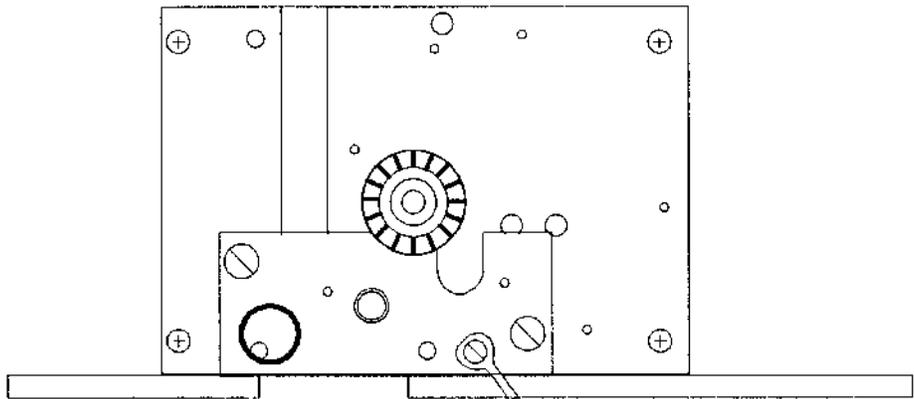

Figure 156 Chuck Holder Plate mounted in ROTARY position
8. Remove the chuck holder plate from the rotary shaft and use the two captive screws to secure it in the ROTARY position on the transducer (Figure 156 on page 177).